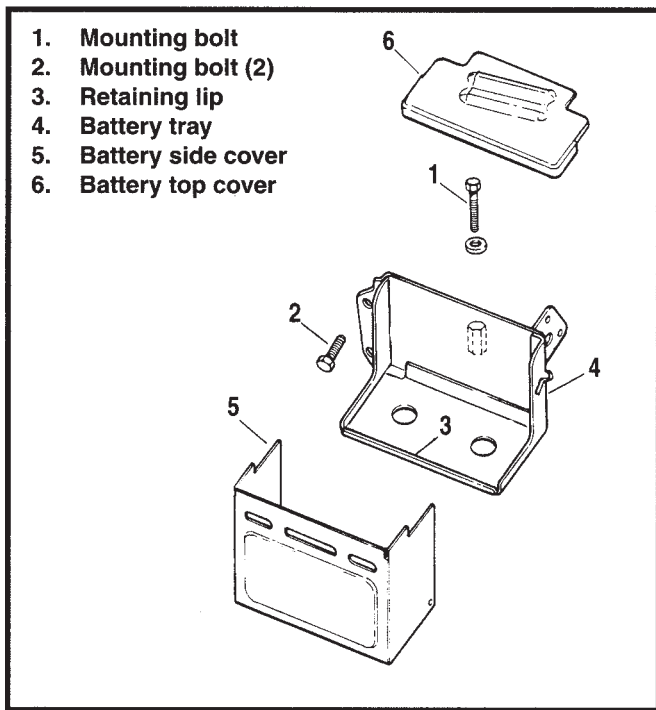

Figure 45. Dyna Glide Battery Tray and Mounting Hardware
Dyna Glide Battery Cover Removal (Figure 45)
- See Figure 45. Loosen two rear mounting bolts (2) of battery tray (4) (between battery and rear fender).
Battery Cover Installation (Figure 45)